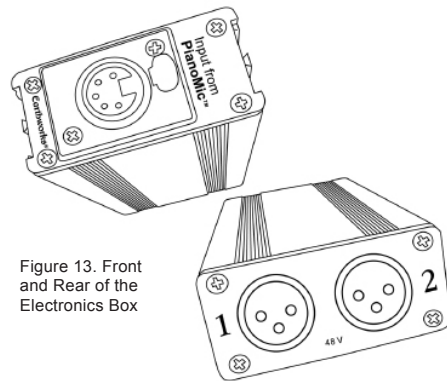

Figure 13. Front and Rear of the Electronics Box
11. With the PianoMic™ placed inside the piano and the microphones properly positioned you are ready to connect the PianoMic™ cable to the electronics box via a 5-pin XLR connector. The back of the electronics box has two XLR-3 connectors that will connect the microphone outputs to the preamp inputs of your mixer (See Figure 13).